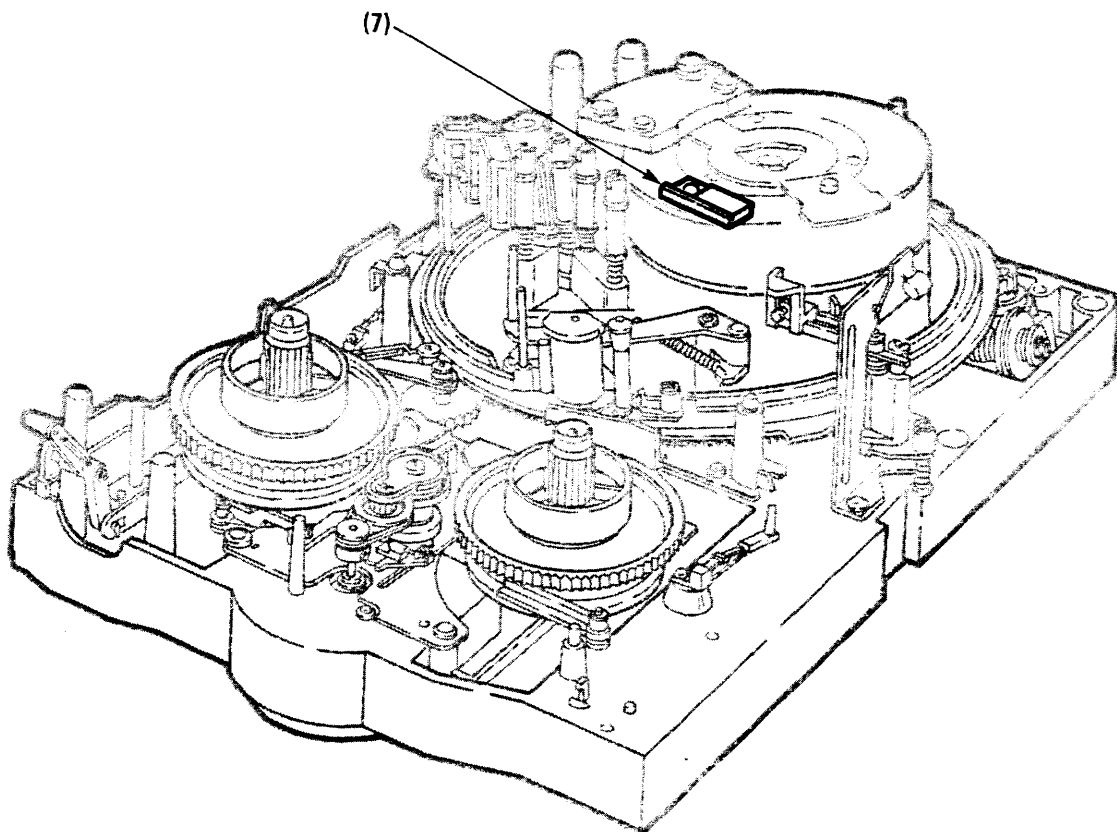

Fig. 3-2-2
2. DEW SENSOR (See Fig. 3-2-2.)